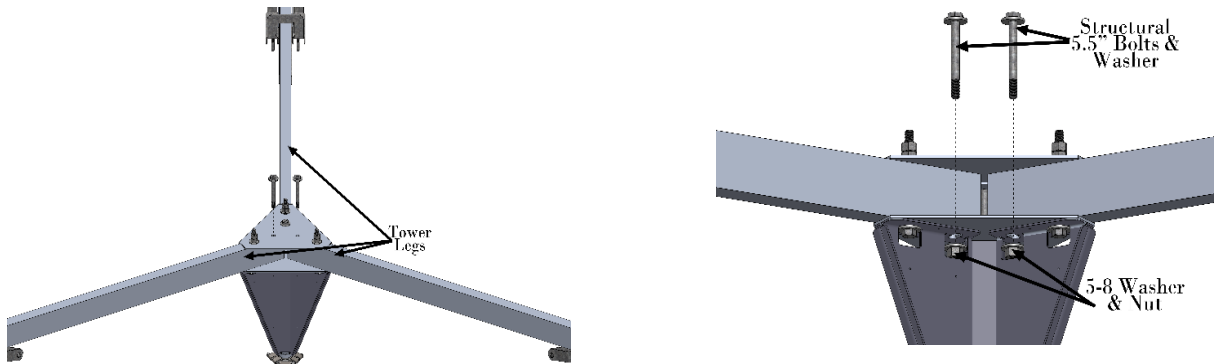

Figure 22 Tower base extension
5. Tighten all 6 structural 5-1/2" bolts on the tower base center as per Figure 22.